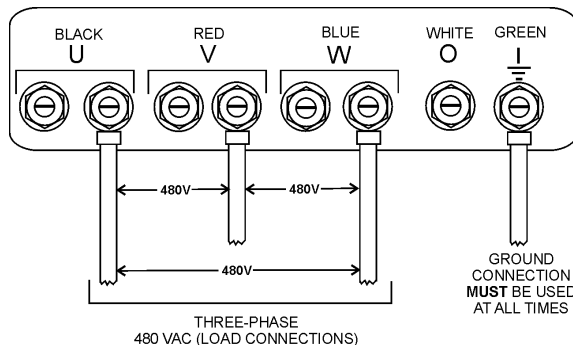

Figure 25. UVWO Terminal Lugs 1Ø-480V Connections
2. Connect the load wires to the UVWO terminals as shown in Figure 25.